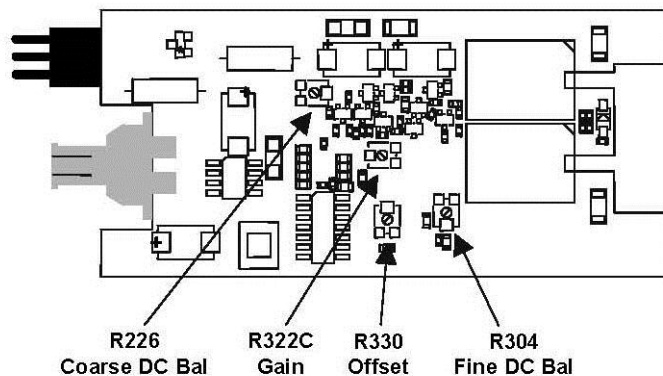

Figure 9, Amplifier Board Adjustment Locations
2. Insert the two-pin shorting plug into the socket on the Logic Board. Use the two holes closest to the probe cable (Figure 9).
12. Using a low capacitance screwdriver, adjust **Offset** (R330) to bring the trace back to exactly center screen. (See Figure 9 for adjustment location.)
9. Using a low capacitance screwdriver, adjust **GAIN (R322C)** so that the DMM reading is within  $\pm 1$  mV (0.5%) of the reading recorded in step E-6. (See Figure 9 for adjustment location.)
5. 5. Adjust Attenuator CMRR (capacitor C18A) for minimum amplitude shift of the displayed waveform at the trigger point in time. See Figure 9 for adjustment location.